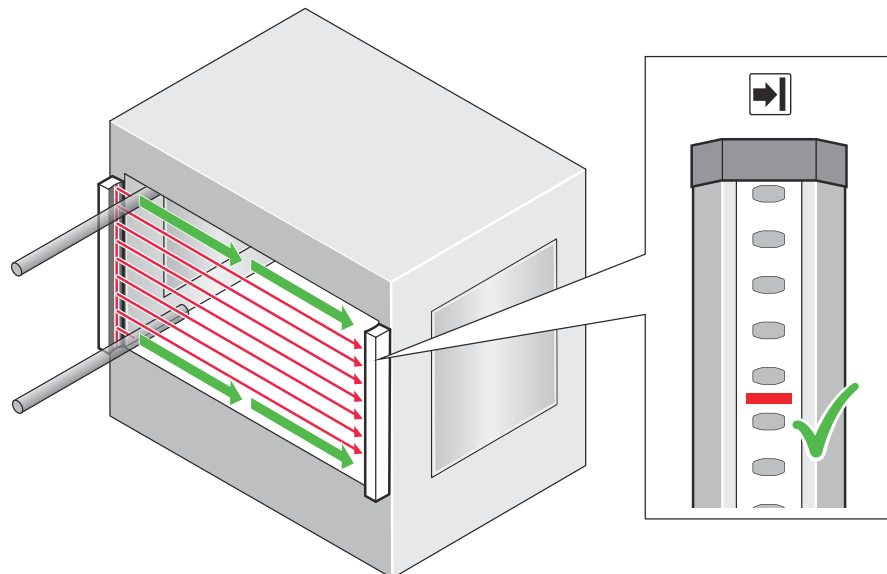

Figure 24: Test rod check: Step 3
3. Then, guide the test rod along the edges of the area to be protected, as indicated by the arrow, see figure 24.